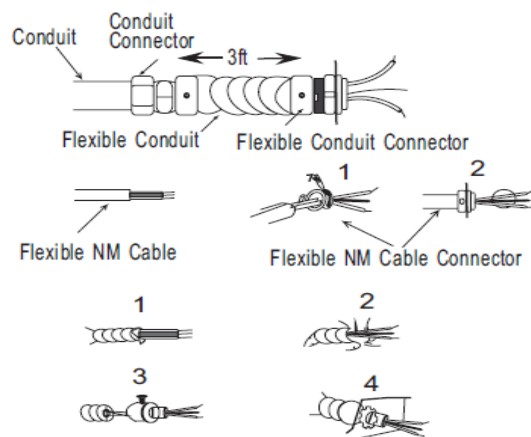

Figure 6-Connectors, cable, and hardware used to wire the heater
2. Attach the cable connectors to the unit (See **Figure 6**) and slide the 10-gauge wire through the cable connector.